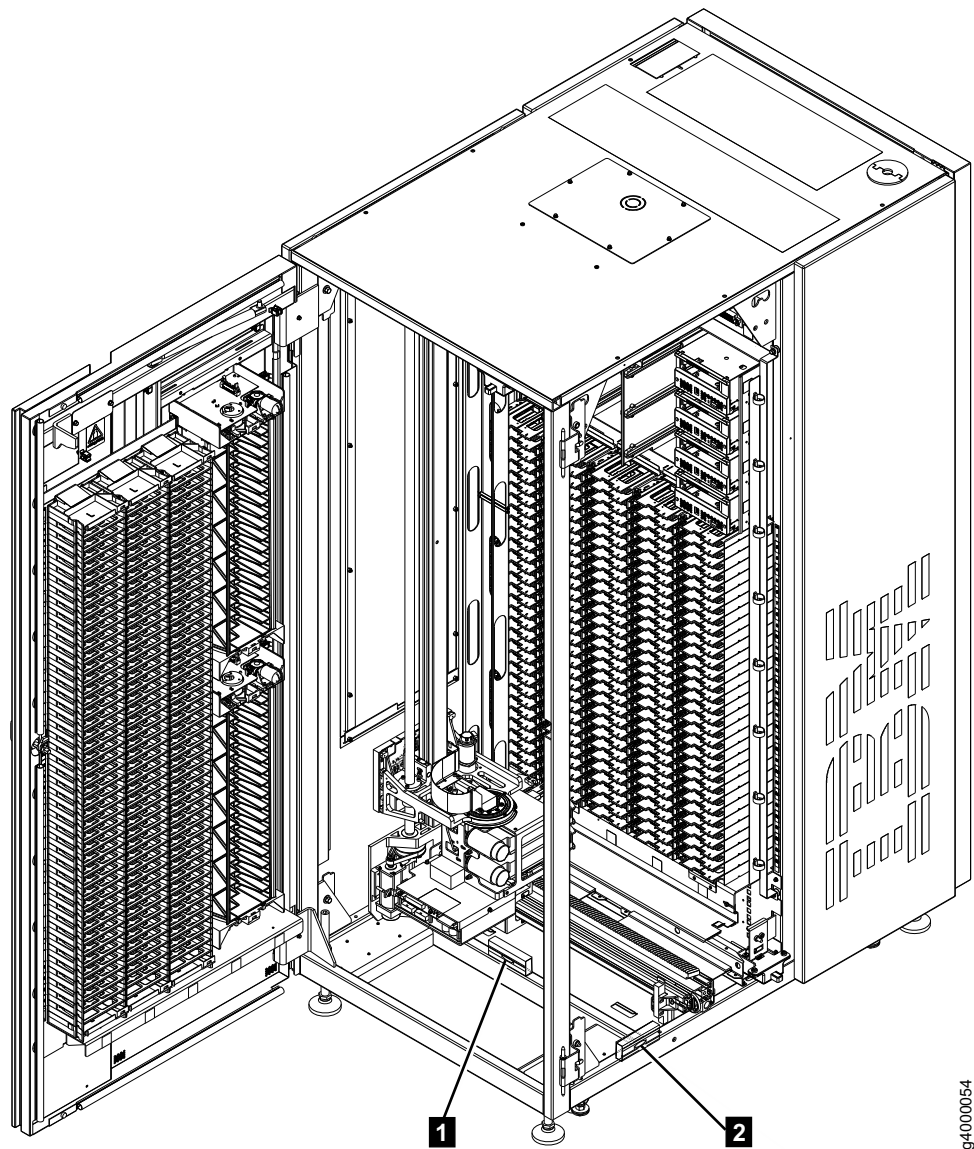

Figure 8. Leveling the base frame
- ___ 22. Refer to Figure 8 on page 21. Place the level **2** on the right side of the base frame. Ensure that the base frame is level from front to back.